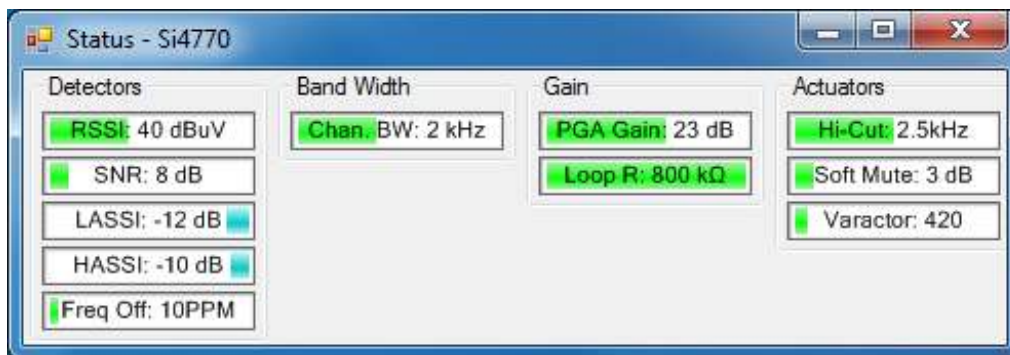

Figure 22. AM Status Indicator Window
9. **Status Indicator Undock:** Opens a separate window with status indicators, as shown in Figure 22. “AM Status Indicator Window”.